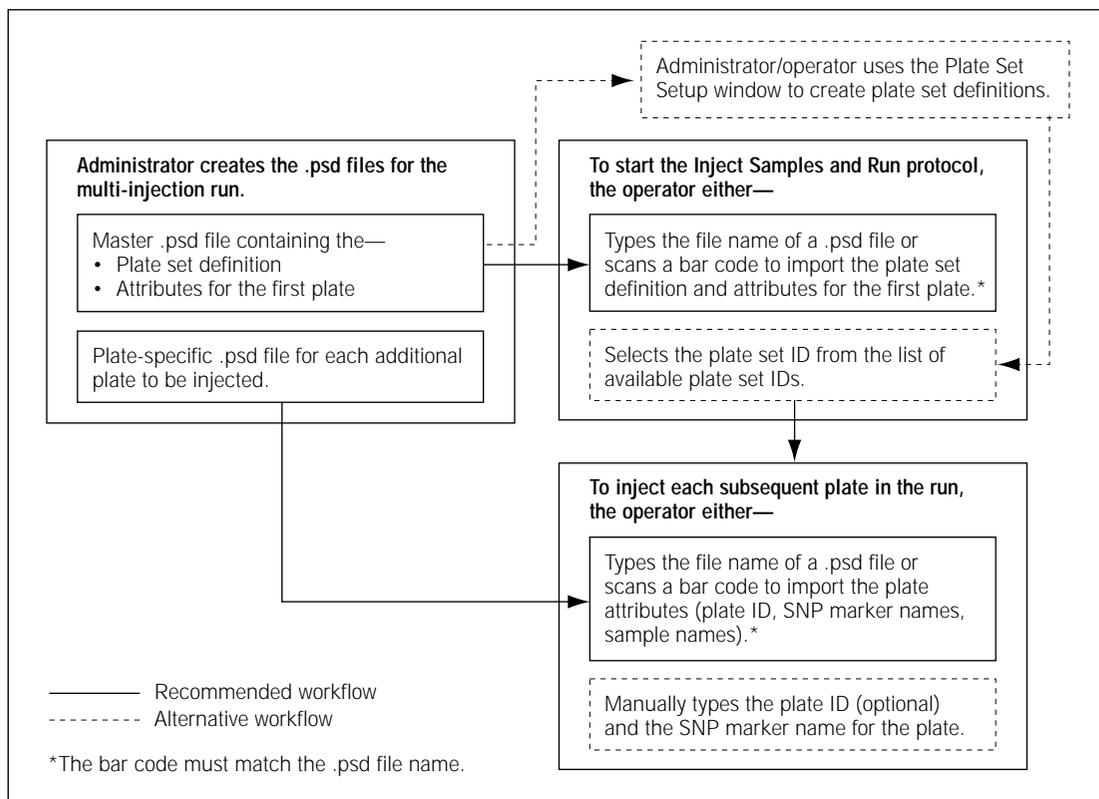

Figure 1-1. Typical workflows for providing the plate set definition and the plate-specific attributes.
- **Automated multi-injection workflow**—For the most automated workflow, the operator can import the required information from .psd files during the Inject Samples and Run protocol (figure 1-1). As the administrator, you create the .psd files and provide the operator with the file names or bar codes to enter during the run:
For each multi-injection run, you can provide two types of .psd files (figure 1-1)—